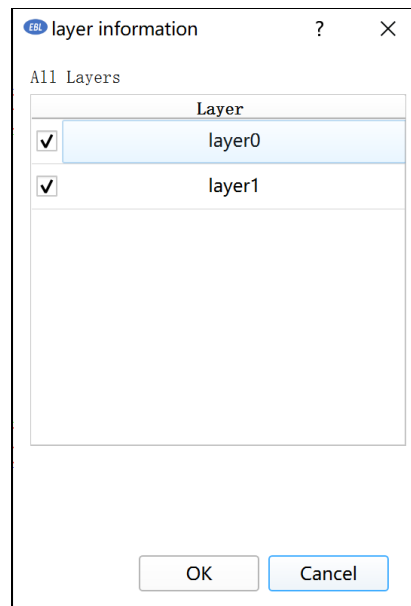

Figure 2.7.6 Select layer
- 10) You can click the "Layer" above to select the EPE of any layer (Figure 2.7.6). All layers are displayed by default. Multiple layers can be selected for display.